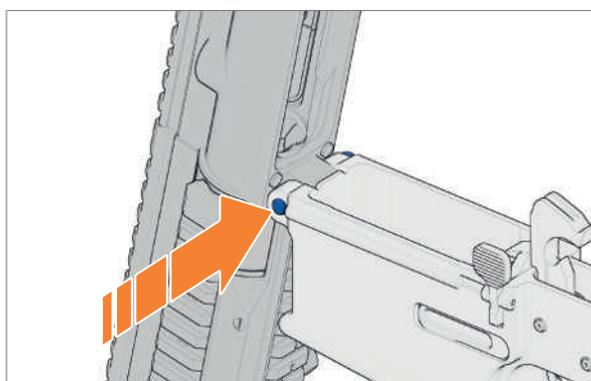

Fig. 94: Push in front locking pin
4. Push front locking pin in to the right and pull out as far as disassembly position (*Fig. 94*).